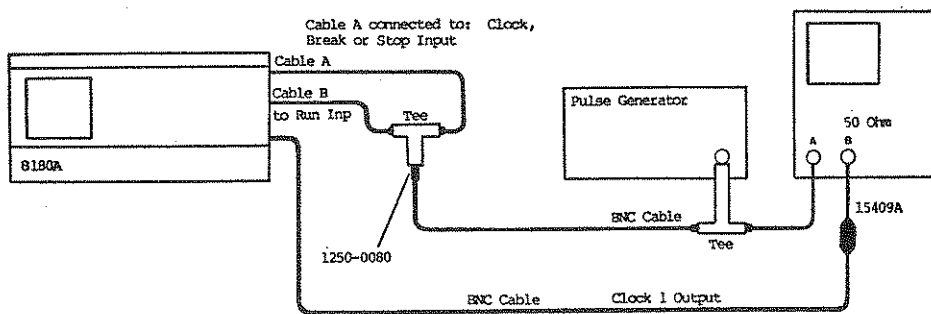

Figure 4-9 External Input Test Setup
8. Connect equipment as shown in Figure 4-9 and press RUN. (BNC Cable A connected to Ext. Clock Input)